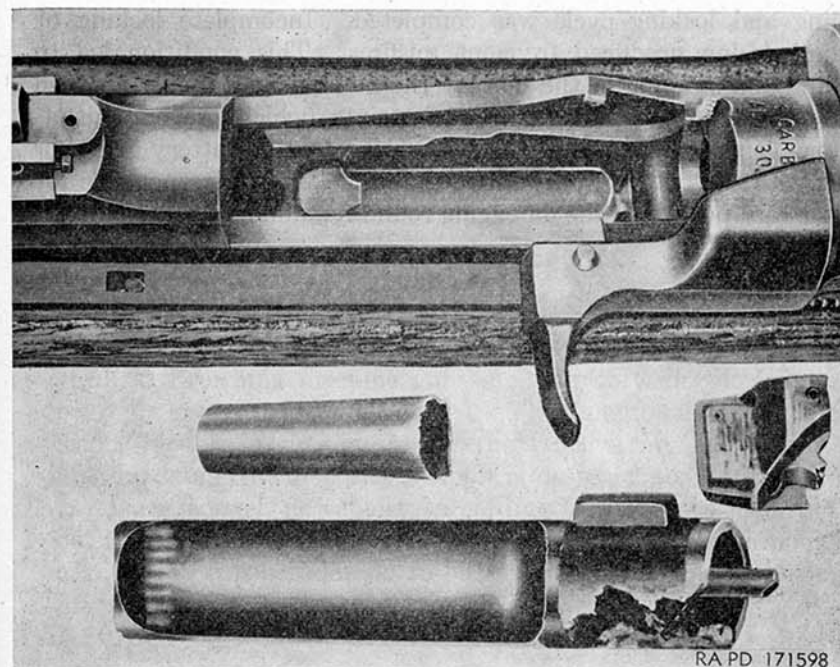
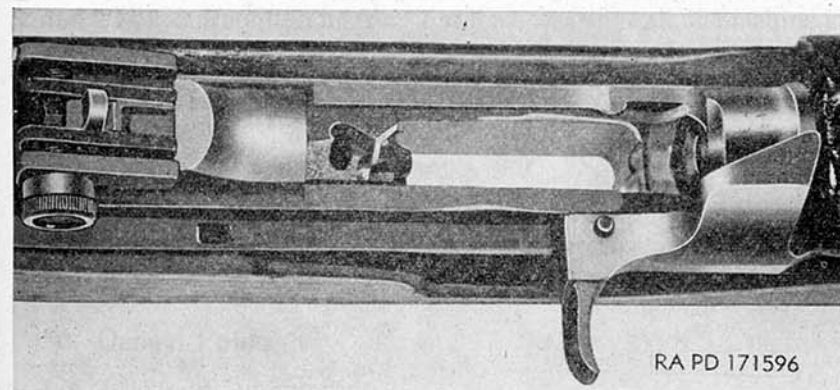

Figure 21. Parts of cal..30 carbine damaged by firing with cracked bolt.
Figure 22. Cal..30 carbine after malfunction caused by firing with cracked bolt.
a. *Cracked Bolt.* Figure 21 shows damage to a cal..30 carbine M1 that resulted from continued firing with a cracked bolt. Examination after the malfunction revealed that the right-hand locking lug was broken and the left-hand lug was damaged. The extractor was blown out of the gun. The number of holes in the right locking lug of the carbine weakens it, sometimes causing this critical component to break off. Figure 22 is another example of damage from the same type of malfunction.
- (1) Kinks and/or weakness in the operating slide spring.
- (2) Foreign material such as rust or dirt.
- (3) Deformed, burred, or worn operating slide spring guide, or burred nose on guide. (Nose of guide should be free from burrs to insure positive seating in its recess.)